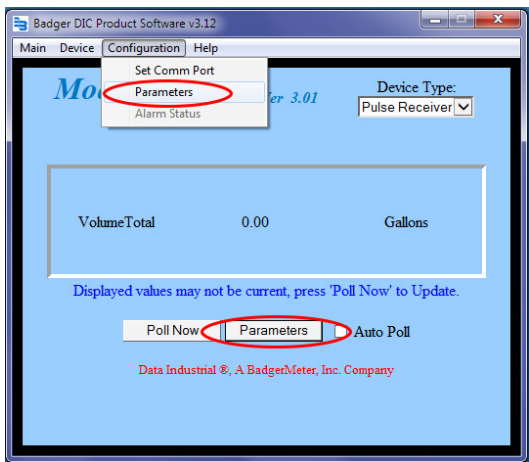

Figure 14: Select Parameters
7. Select **Configuration > Parameters** to open the *Parameters* screen. You can also select the **Parameters** button. See *Figure 14*.